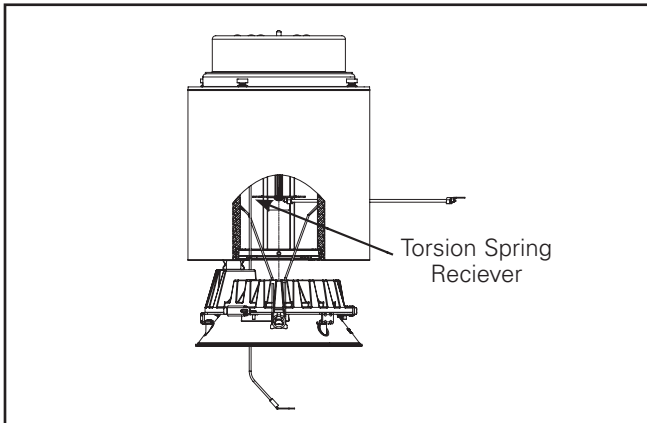

Figure 14.
7. Install the LED Engine and trim assembly by inserting the torsion springs into the spring receivers located inside the housing. (Figure 14.)